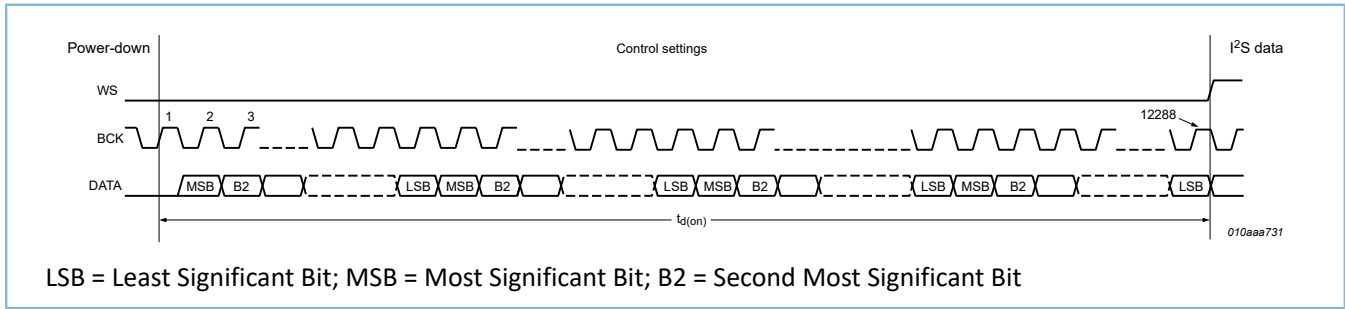

Figure 8-3: Power-up/power-down timing (without control settings)
The TFA9882 can detect control settings via the  $I^2S$  input. Control settings are selected by transmitting control patterns on the DATA input during the power-up sequence (the first 12288-bit clock cycles). The word select signal (WS) must be switched off during this interval. Figure 8-3 illustrates the control setting sequence. After receiving 128 consecutive